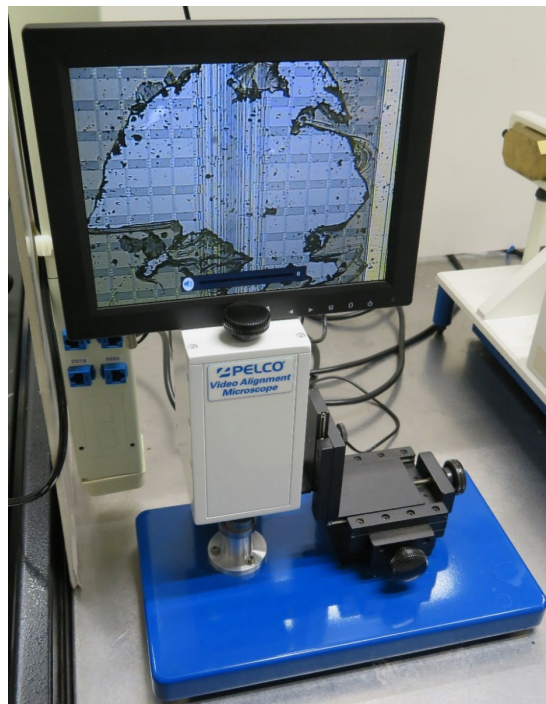

Figure 4: Aligning the Sample on the VAM
5. Place the platen on the magnetic base and then place onto the PELCO® Video Alignment Microscope (VAM). Align the platen on the magnetic base so the ROI is centered (**Figure 4**).